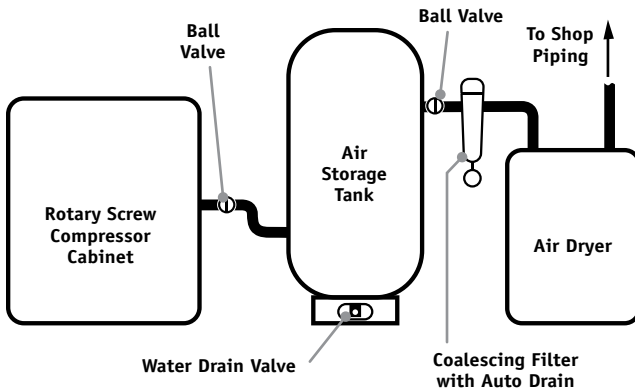
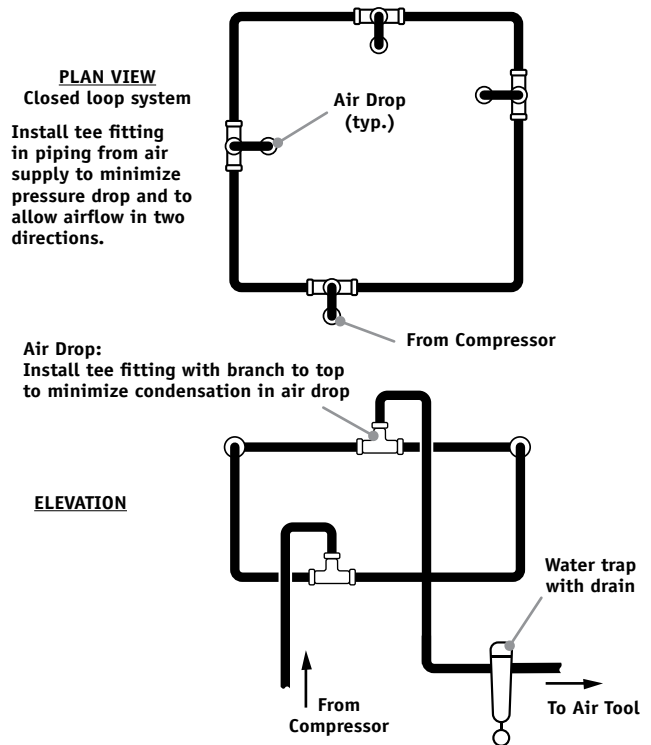

Figure 4: Basic Piping Diagram
Figure 5: Closed Loop Installation
1. Install piping as shown in Figure 4. Refer to figure 5 for recommended closed loop installation.